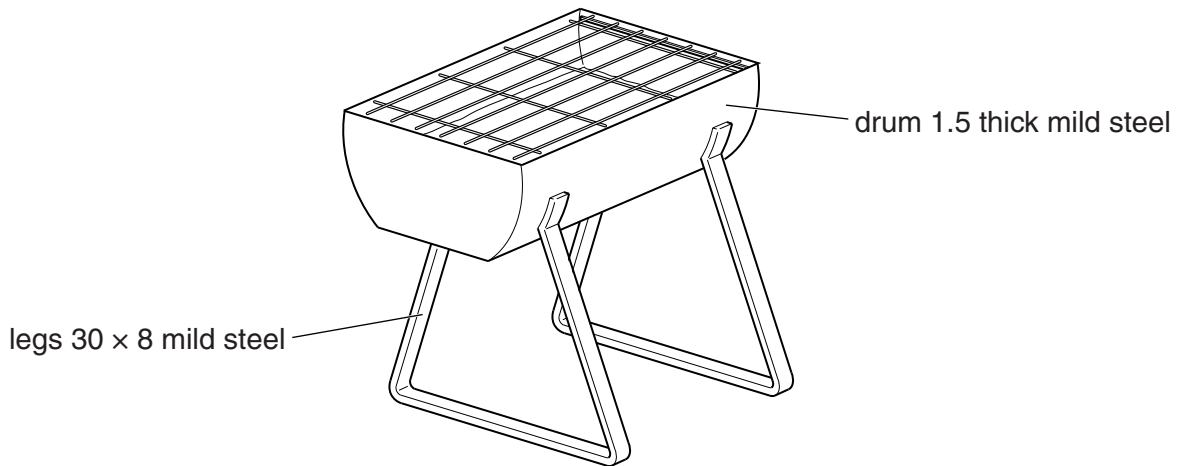

Fig. 4
- 4 Fig. 4 shows a barbecue made from mild steel.
- (a) Give **three** reasons why mild steel is a suitable material for the barbecue shown in Fig. 4.
(c) The barbecue shown in Fig. 4 is unstable when used on uneven ground.